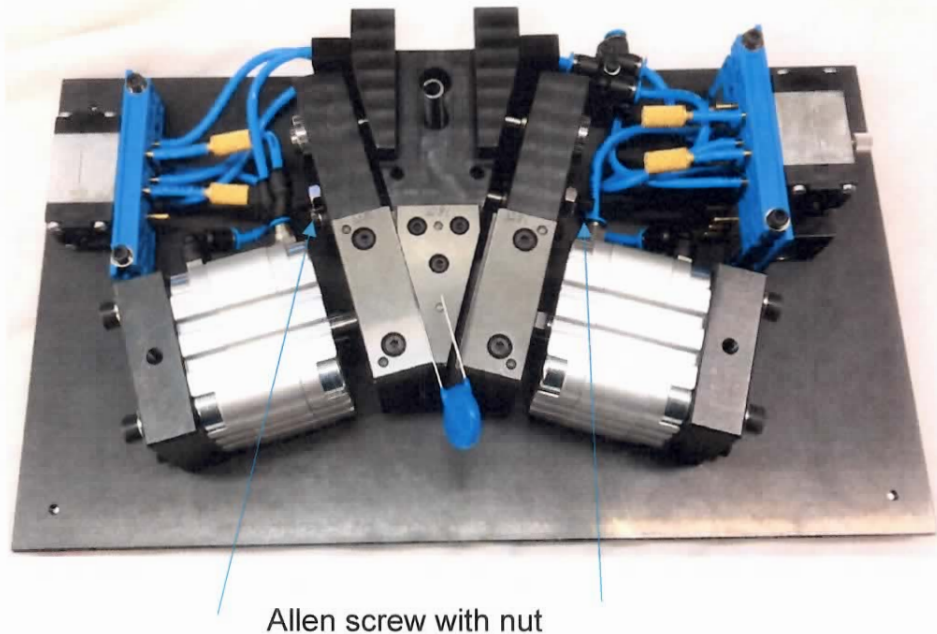

Fig. 6
4. Attention a plastic pad on the left and right. Must not be forgotten later when reinstalling. (see Fig.6).
5. Unscrew and remove the middle jaw, left bending jaw (with knife) and right bending jaw (with knife) (see Fig. 6).
4. Attention a plastic pad on the left and right. Must not be forgotten later when reinstalling (see Fig.6).